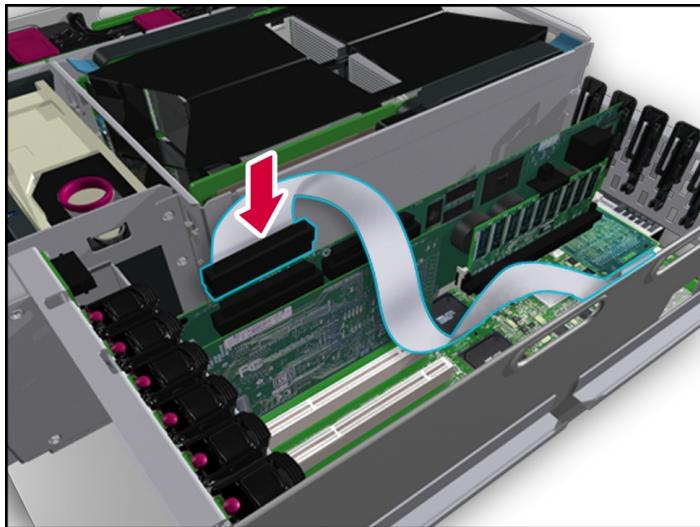

Figure 4-13: Connecting the Integrated Array Bypass assembly cable
12. Connect the Integrated Array Bypass assembly cable to the optional array controller board, as shown in Figure 4-13.